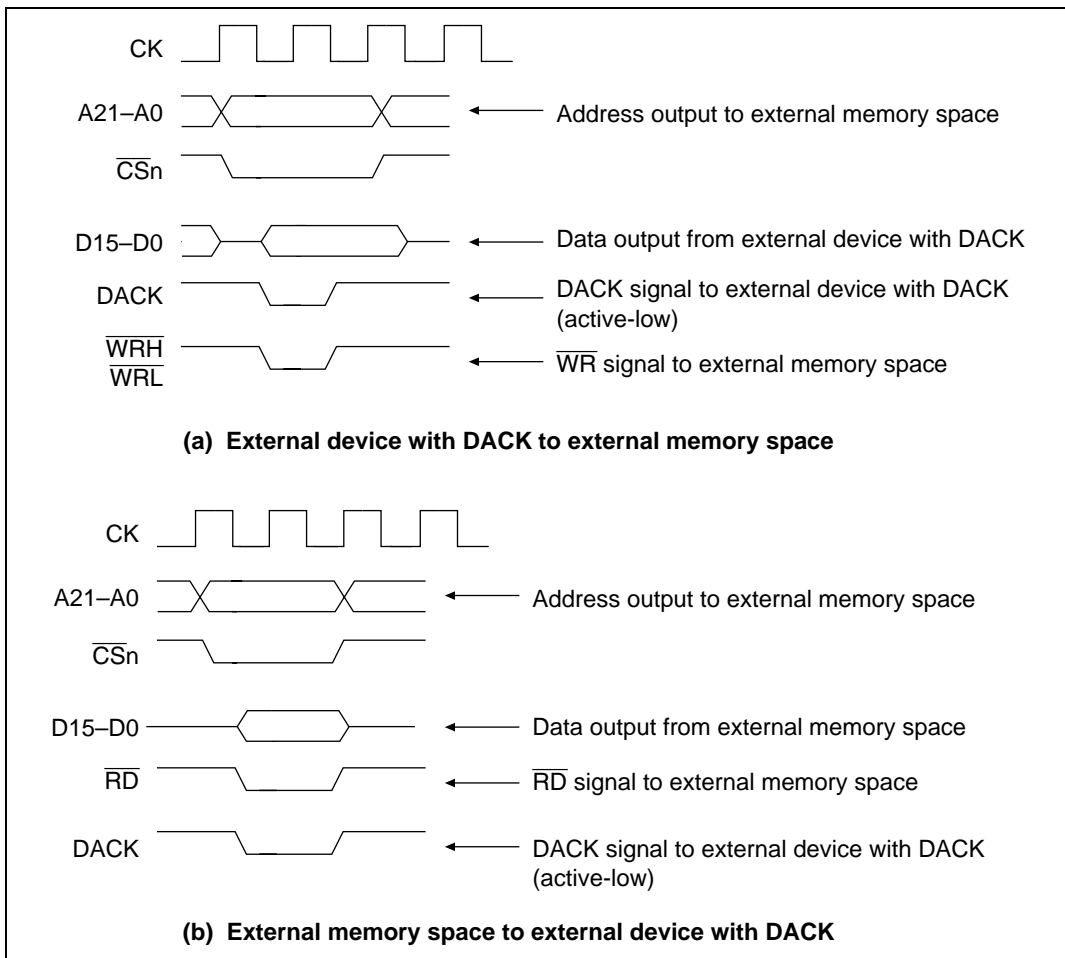

Figure 9.7 Examples of DMA Transfer Timing in Single Address Mode
Two types of transfers are possible in single address mode: 1) transfers between external devices with DACK and memory-mapped external devices, and 2) transfers between external devices with DACK and external memory. The only transfer request for either of these is the external request ($\overline{\text{DREQ}}$). Figure 9.7 shows the DMA transfer timing for single address mode. The DACK output when a transfer occurs from an external device with DACK to a memory-mapped external device is the write waveform. The DACK output when a transfer occurs from a memory-mapped external device to an external device with DACK is the read waveform. The settings of the acknowledge mode (AM) bits in the channel control registers (CHCR0, CHCR1) have no effect.